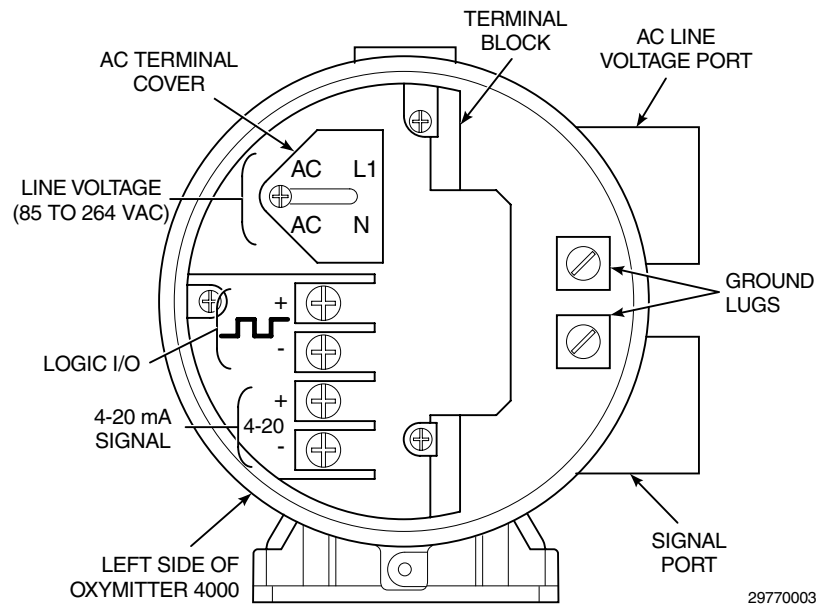

Figure 3. Oxymitter 4000 without SPS 4000 Wiring Diagram
5. If NOT using an SPS 4000, make the following wire connections as shown in Figure 3: line voltage, 4-20 mA, and logic I/O.